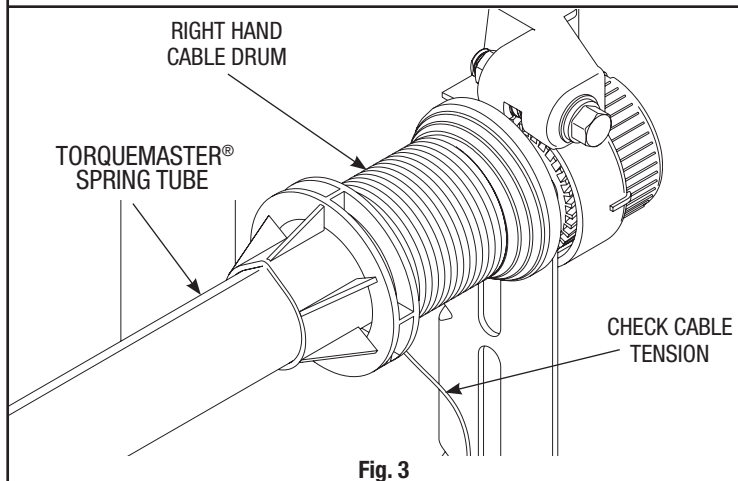

Fig. 3
Step 3: Verify that spring tension has been released by pulling the counterbalance cable on the right hand cable drum away from the header (Fig. 3). If spring tension has been released, the cable will be loose. In addition, the TorqueMaster® spring tube should be free to rotate in either direction.